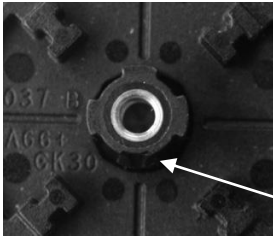
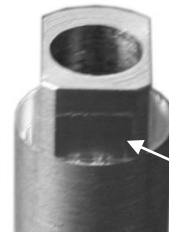

Fig. 1
Fig. 2
1. Rotate the valve shoe to close the required port the shoe position is indicated by the machined point (fig. 1) of the 3 points of the end of the valve stem.
5. Fit the valve stem extender onto the valve, paying attention to the position of the stem shaft. The 1/2 flat, which indicates the closed side of the valve body (fig. 2) goes on the side of the machined point (fig. 1) of the 3 points of the end of the valve stem.